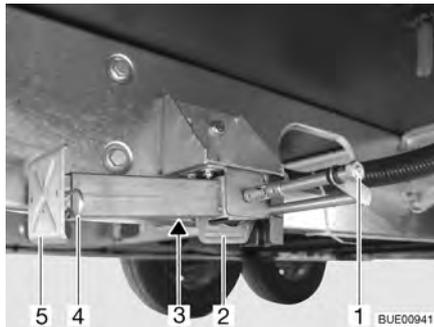

Fig. 24 Steady leg
- Place the socket spanner on the hexagon nut (Fig. 24,1) and rotate until the steady leg is in a perpendicular downward position.
- If the length of the steady leg can be adjusted, remove the splint (Fig. 24,4) out of the support foot extension (Fig. 24,5).
- Place the socket spanner on the hexagon nut (Fig. 24,1) and rotate until the steady leg is clear of the ground.
- Push in the support foot extension (Fig. 24,5) and insert the splint (Fig. 24,4) in the drilled hole in the support foot extension.
- Rotate the hexagonal nut (Fig. 24,1) until the steady leg has swung upwards and the guide (Fig. 24,2) has reached the very end of the slot (Fig. 24,3).